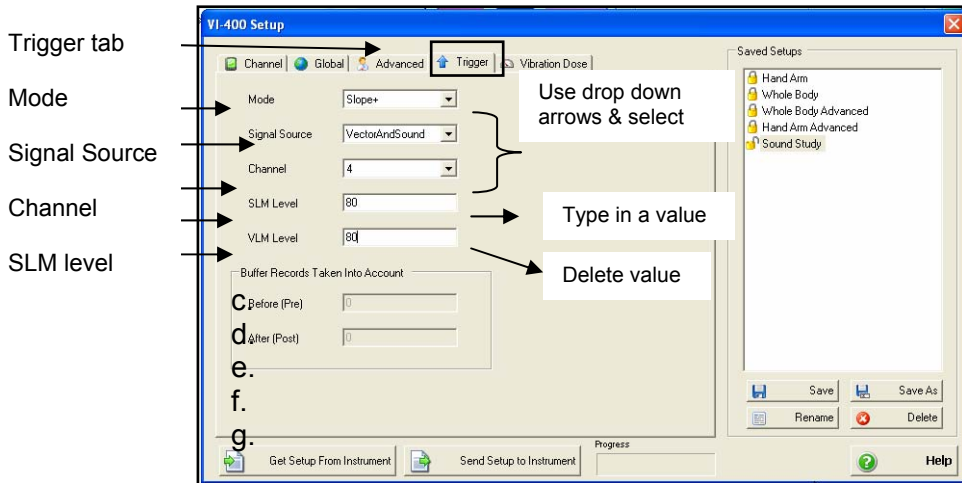

Figure 8-16: Defining trigger settings for SLM in QSP-II
- Click on the **Trigger** tab. Select a mode, signal source, a channel (channel 4 indicates Sound study), select a value for SLM level. Delete the VLM level. (See Figure 8-16 and Table 8-3 for explanation.)